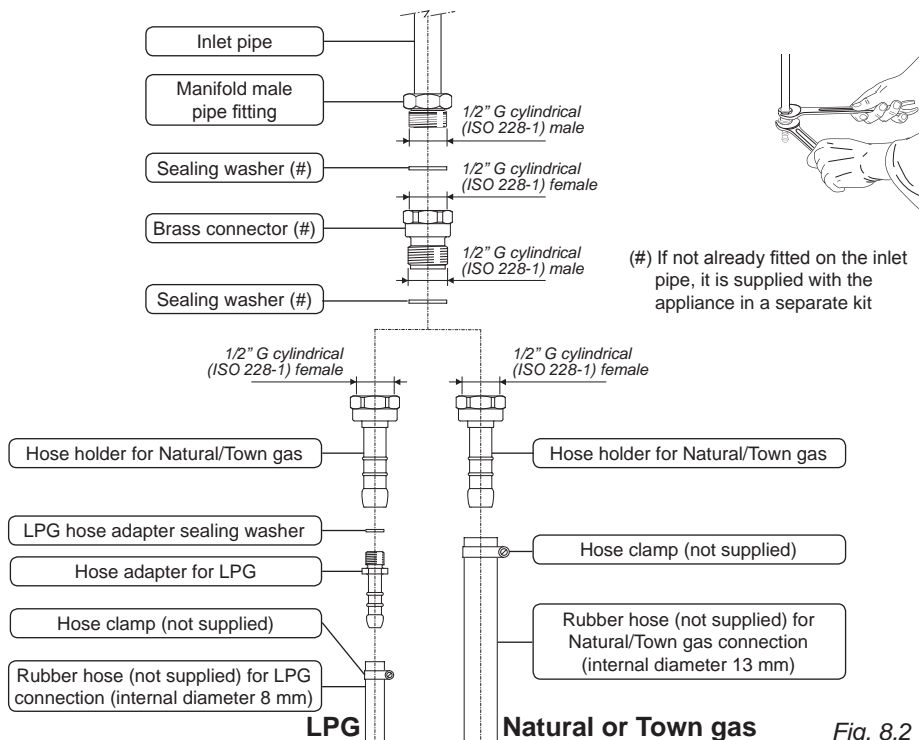

Fig. 8.2
1. If not already fitted, fit the Natural/Town gas hose holder on the inlet pipe, making sure that you place the sealing washer between them (as shown in fig. 8.2).
1. If not already fitted, fit the LPG hose holder on the inlet pipe, making sure that you place the sealing washer between them (as shown in fig. 8.2).
- use two spanners when fitting the parts (fig. 8.2).